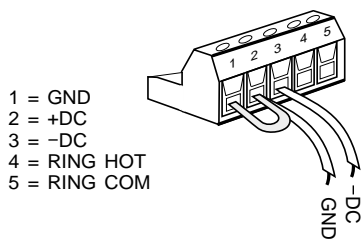

Figure 2 5-position terminal strip showing DC output connected for a positive ground scheme.
3.7 SELECTING THE DESIRED DC OUTPUT SCHEME As mentioned previously, the DC output is floating (isolated) in respect to earth ground. The DC output can be connected to the equipment to be powered in this manner, or it can be referenced to earth ground. In telecommunications applications it is typical to utilize a positive ground, with the DC output configured to be -24Vdc in respect to earth ground. This is easily accomplished by strapping terminal strip pin 1 (GND) to pin 2 (+DC) and using this combination as the ground connection to the load, shown in Figure 2. The -24Vdc is then connected from pin 3 (-DC) to the load. Note that pin 1 is internally connected to both the Model 702 chassis and the safety ground wire of the power cord.